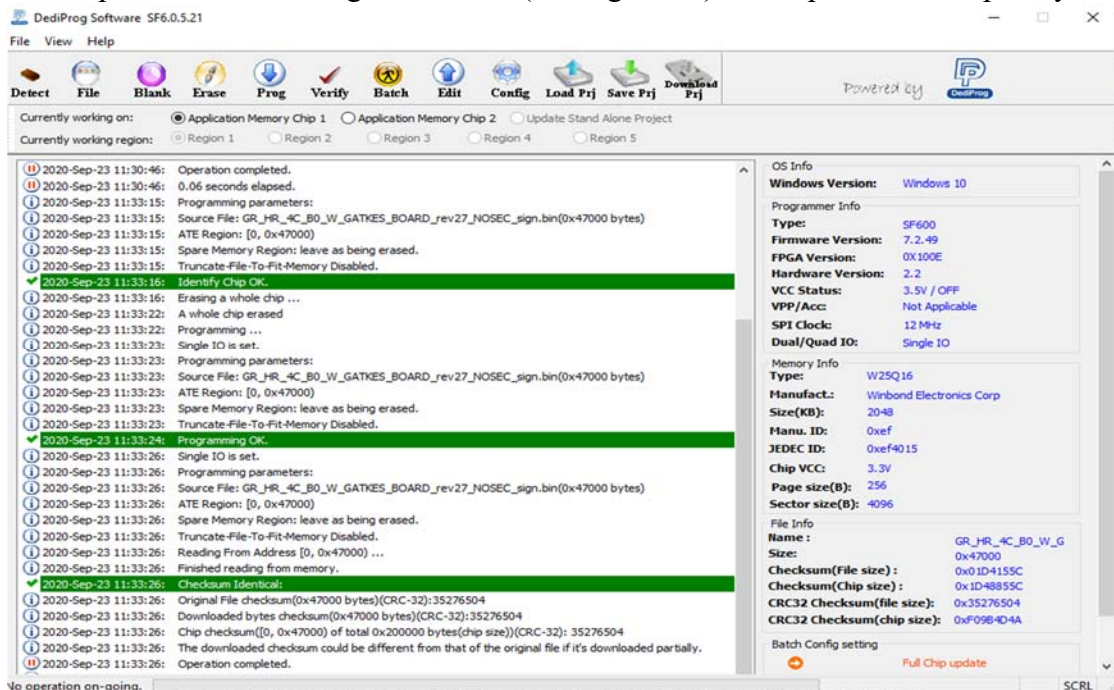

Figure 12: All stages are PASS
- Step 8: Wait for all stages are PASS(see Figure 12), and Operation Completely